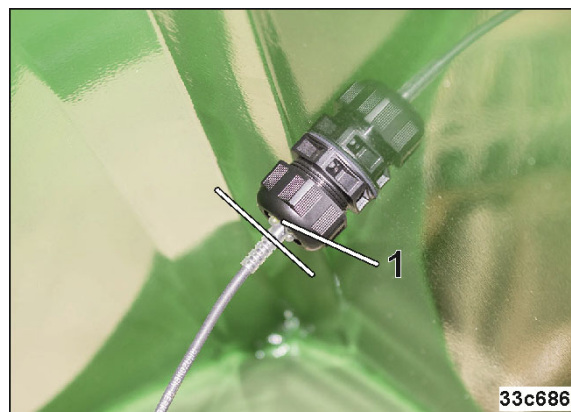

Fig. 148
4. Insert the fill level sensor into the holder until the cable output fits flush in the holder (Fig. 148/1).